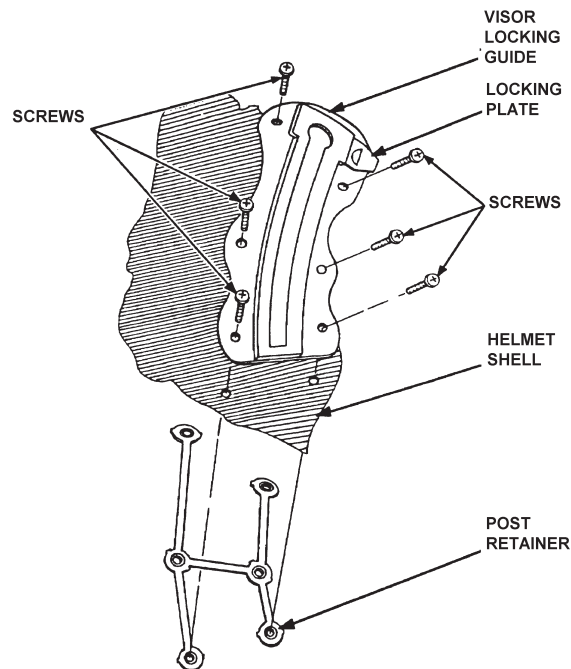

Figure 3-14. Visor Locking Guide
2. Referring to Figure 3-14, secure the visor locking guide to the helmet shell assembly with six screws.